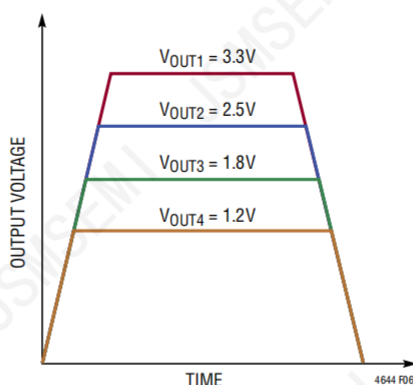

Figure 23. Output Coincident Tracking Waveform
The coincident output tracking can be recognized as a special ratiometric output tracking which the master's output slew rate (MR) is the same as the slave's output slew rate (SR), as waveform shown in Figure 23.
The expression shows that the diode voltage decreases (linearly if I_0 were constant) with increasing temperature and constant diode current. Figure 23 shows a plot of V_D vs Temperature over the operating temperature range of the JSM4644.